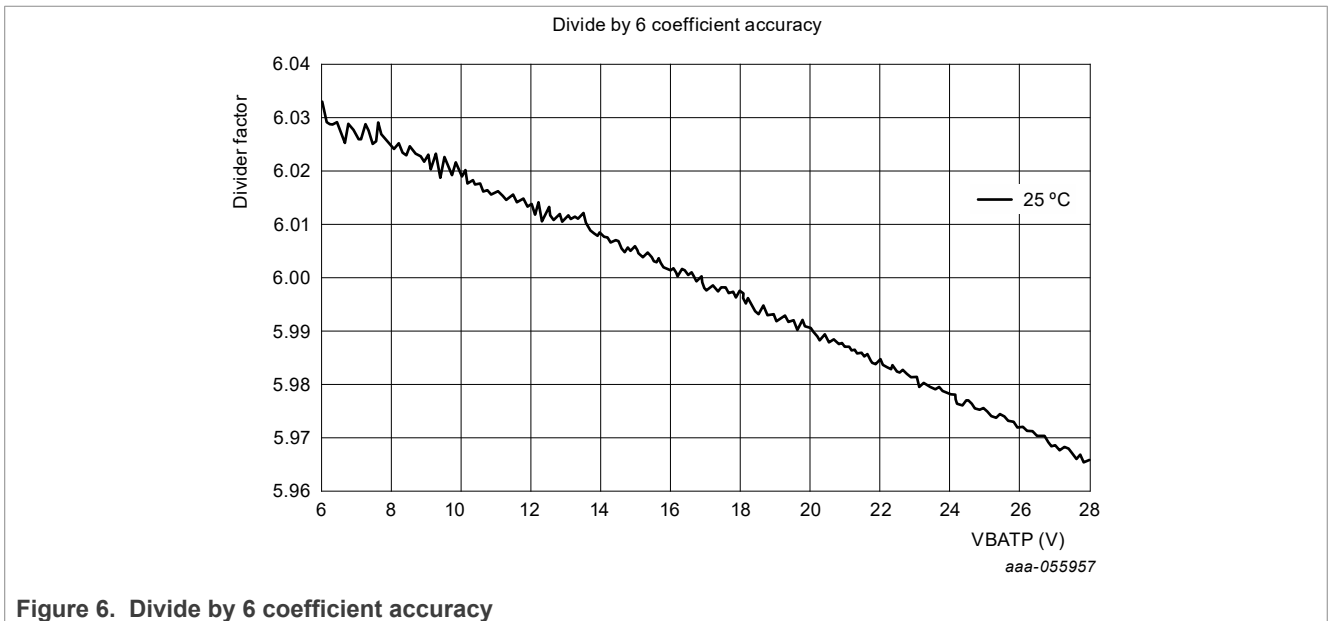

Figure 6. Divide by 6 coefficient accuracy
- Calibration of divider ratio can be done at V_{BAT} = 12 V, 25 °C to achieve a higher accuracy. See Figure 6 for AMUX offset linearity waveform through the operating voltage range.